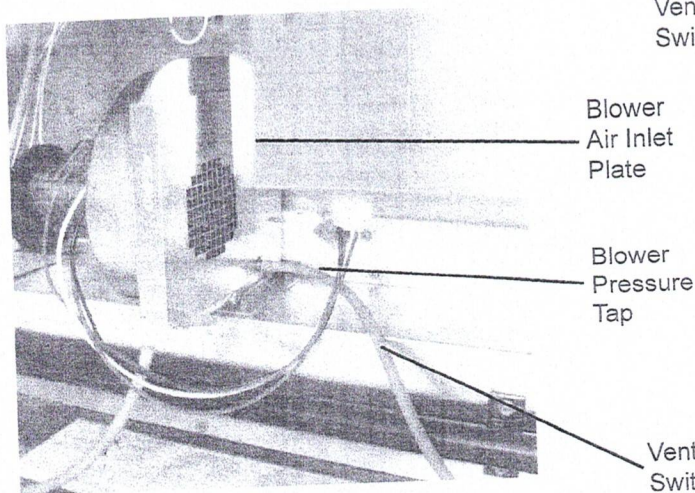

FIGURE 8
10. Remove the rubber cap from the blower outlet pressure tap and discard. See Figure 8 for blower tap location.
11. Attach the pressure switch tubing to the vent pressure switch and to the pressure tap on the blower outlet. See Figure 8 for blower tap location. On some older model
- heaters, the pressure tap is located on the opposite side of the blower housing as shown in Figure 8.
- b) Install the new blower plate included in the kit using the screws. It may be helpful to drive the screws in and out of the plate outside of the heater first to "thread" the holes before installing it in the heater. See Figure 8.